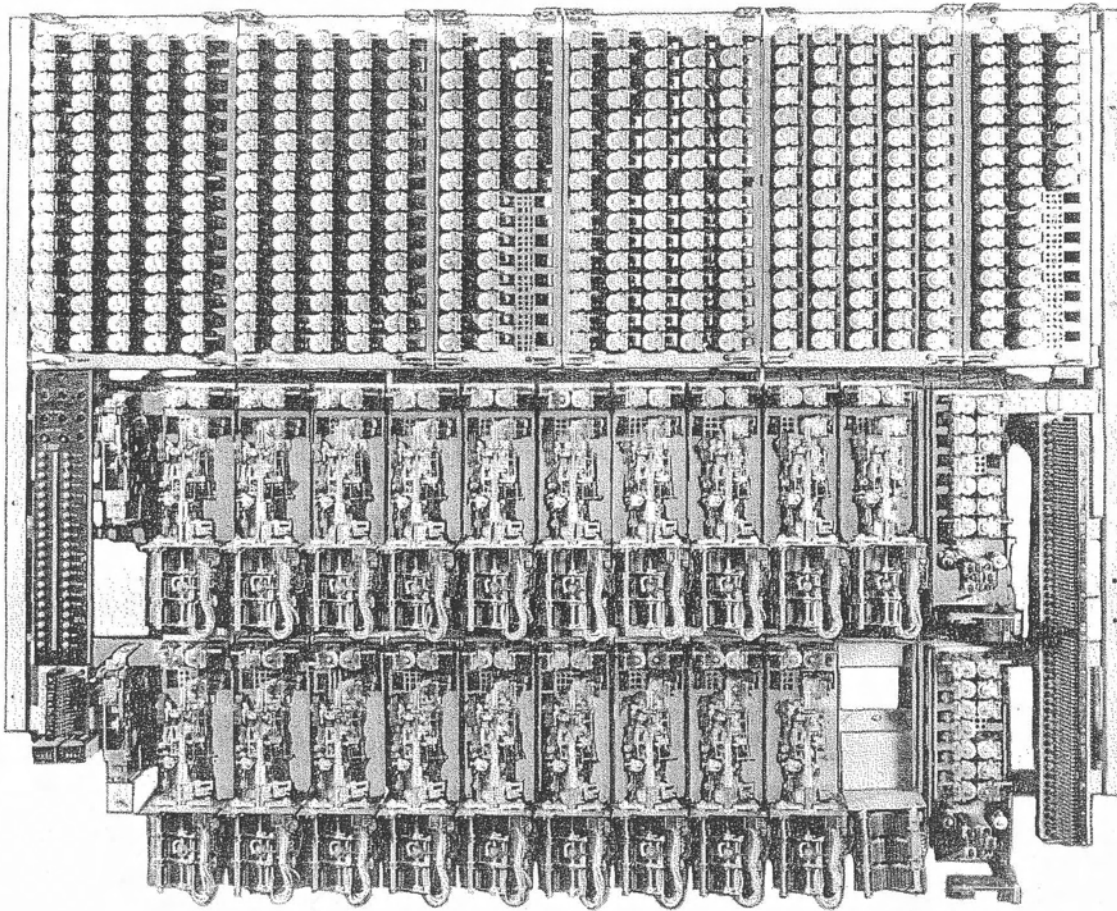

Figure 5. Two-hundred-line linefinder shelf with linefinders mounted below line and cut-off relays. Used with type 11 equipment frames 9' tall.
take care of its traffic. Sometimes the traffic originating in 200 lines requires more linefinders than can be mounted on the linefinder shelf. Then a shelf mounting nothing but linefinders and banks is utilized. These linefinders are connected to the group relays and the distributors of the 200 lines just as are the regular finders. These linefinders operate just as the regular linefinders. The bank multiple of this shelf is reversed in the middle so that the number of finders in group A and group B are kept about equal. This shelf is called an "overflow" shelf since the number of finders needed "overflow" the regular linefinder shelf. (Overflow shelves do not handle just "overflow" traffic. The linefinder shelf treats an overflow finder essentially the same as a regular finder). For shelves of the type shown in figure 4, the overflow finders mount at the left of the regular finders. For shelves of the type shown in figure 5, the overflow finders mount either just below the regular finders or on a non-adjacent frame. See also figure 10.
**3.6 Meters.** Linefinder shelves may mount up to four counters (figure 5 shows two). A PCA (peg count, group A) meter counts the calls made through group A linefinders; a PCB meter, through group B linefinders. An ATB (all trunks busy) meter counts the times that all linefinders on the shelf are busy. An OF (overflow) meter counts the number of calls that are not completed because all finders on the shelf are busy.